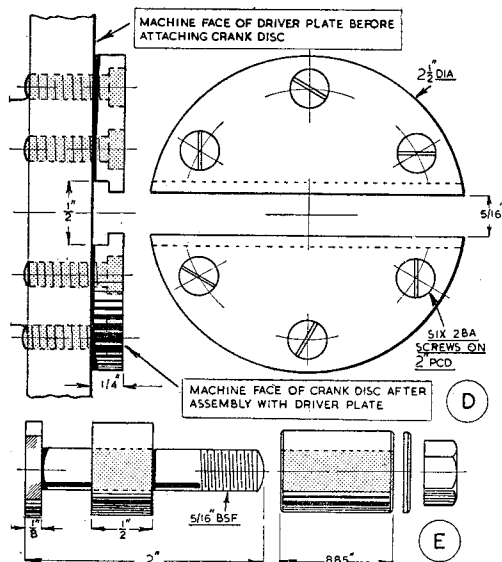

Fig. 6. Showing details of the driver plate ("D") and the crankpin assembly ("E")
The Driver Plate (D), Fig. 6
The Crankpin Assembly (E), Fig. 6